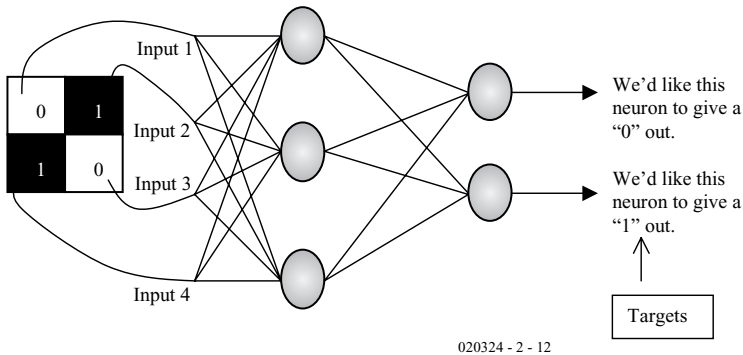

Figure 2. A network wired for recognising patterns.
**Figure 2** shows a BP network being used for Pattern Recognition.
A common question is: How big should the network be? We can see from **Figure 2** that the number of inputs is fixed by the pattern we are trying to process. In the case of four pixels, there must be four inputs. Likewise, the number of output neurons is fixed by the number of patterns we want to recognise. If we had nine patterns we could either use three output neurons and binary code their outputs, or we could use nine and assign them so that, for example, when pattern 2 appears,